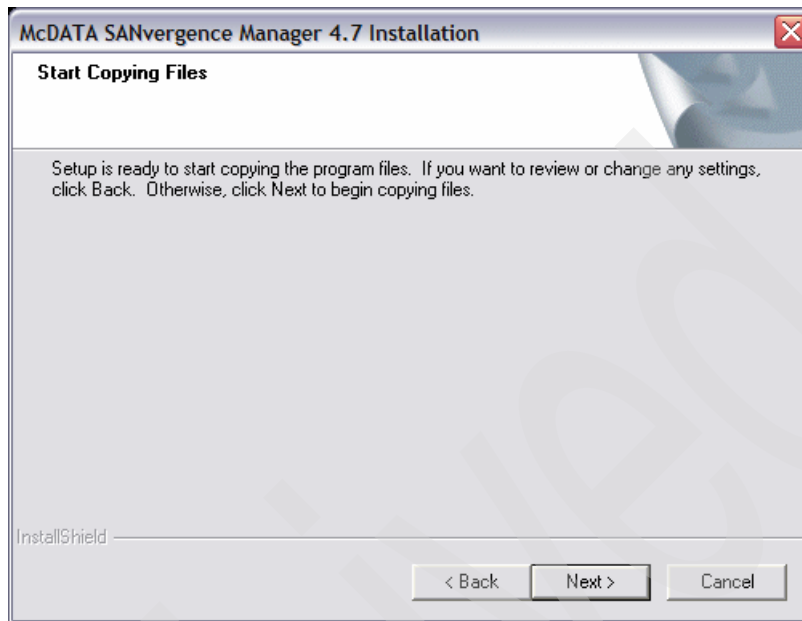

Figure 17-14 SANvergence Manager: Ready to be installed
6. The installer is now ready to proceed, so click **Next** (Figure 17-14).